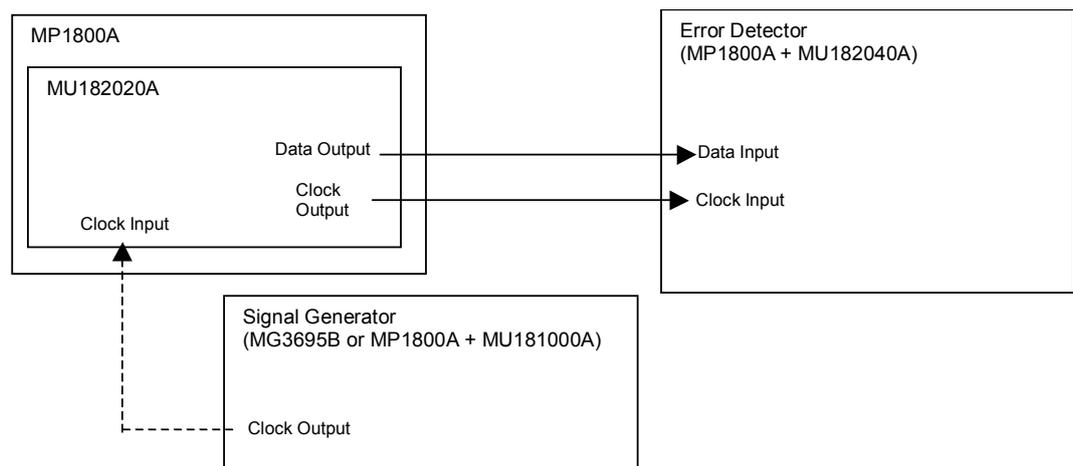

Fig. 6.3.1-1 Connection diagram for operating frequency range test
1. Connect each measuring instrument using cables as shown in Fig. 6.3.1-1.